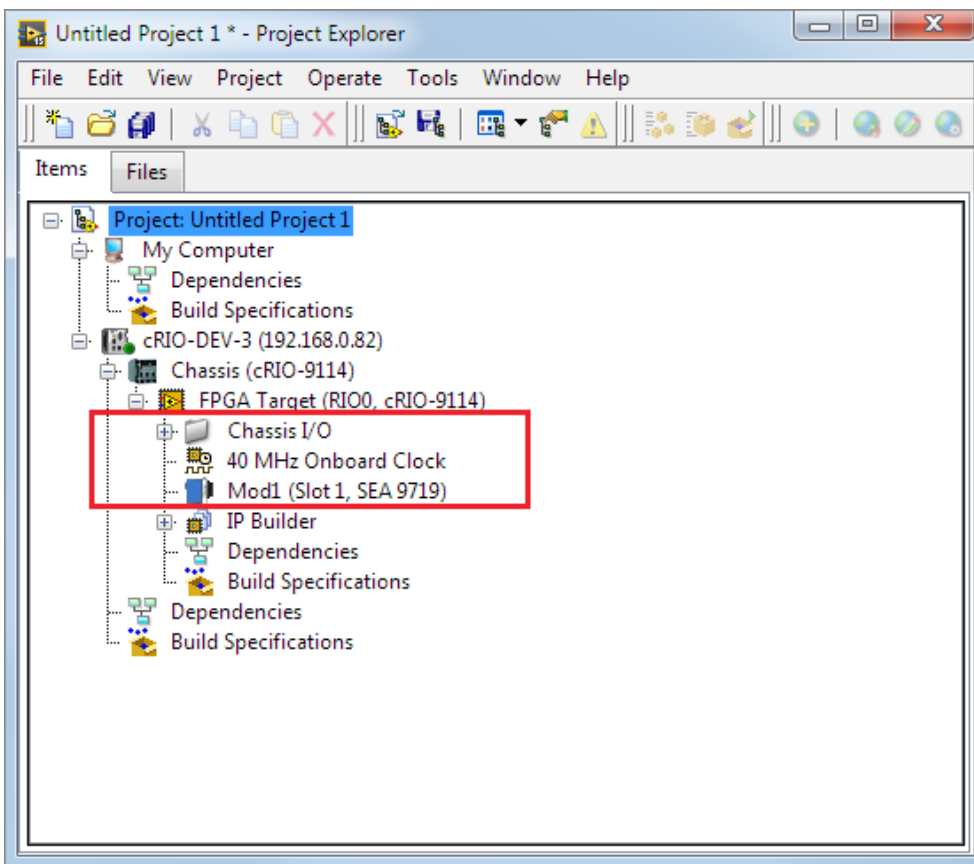

Fig. 4: Quick Start – Project after configuration
- 13. The configuration is completed. After a successful configuration, the project explorer window should look similar to Fig. 4.
The project is now fully configured including the SEA 9719 module (see red framed items in the project tree in Fig. 4).